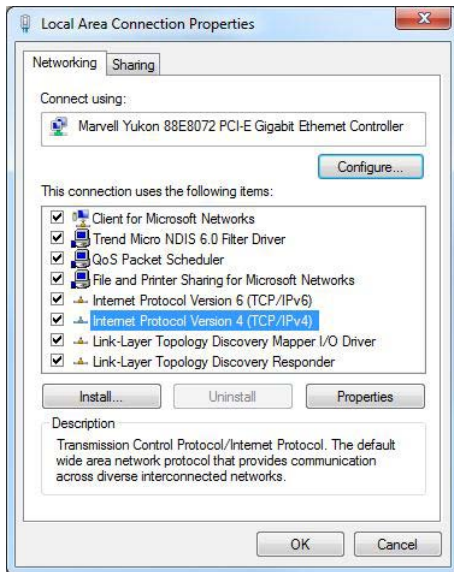

Figure 48: Local Area Connection Properties
- Deactivate the item "Internet Protocol Version 6 (TCP/IPv6)" and then select the "Internet Protocol Version 4 (TCP/IPv4)" and click onto "Properties" (see Figure 48)